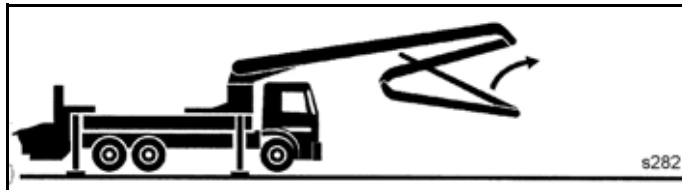

Fig. 179 Extend boom section 4
- Extend boom section 4 (**Fig. 179**).
In the following position, it is possible to place concrete near the vehicle (**Fig. 179**).